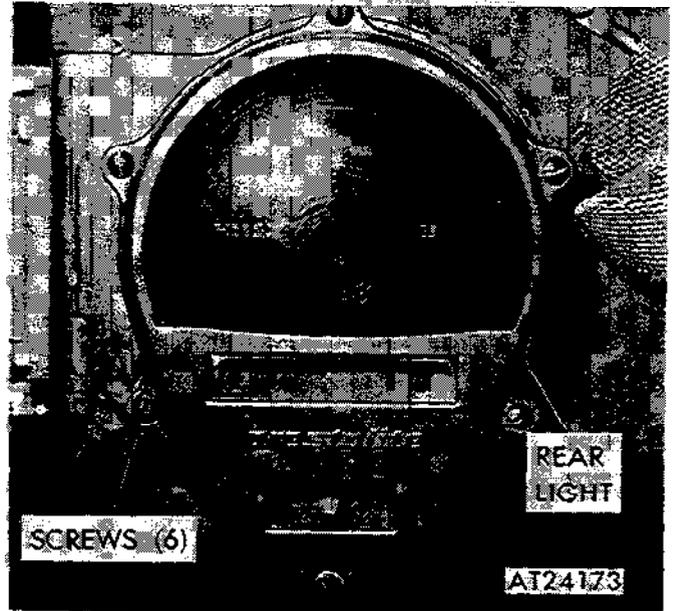

Figure 2-210. Removing or installing door to rear light housing (M151A2, M825, and M718A1 vehicles).
(1) Loosen six screws securing door to light housing (fig. 2-210).